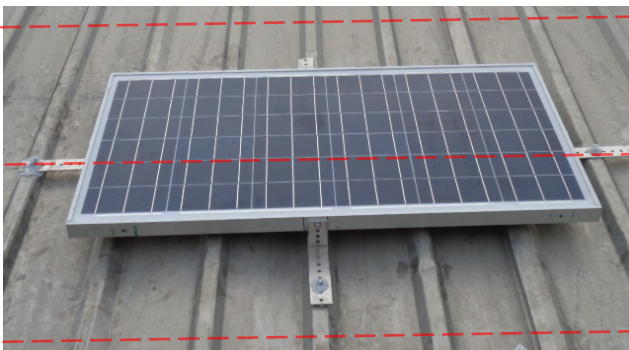

Figure 1
- On rare occasions, if you can't reach both beams, you can secure the middle of the panel to the beam using an L-foot on each side. Use one L-foot on the top and bottom of the panel to keep the panel from shifting (see figure 1).
1. Remove the contents of the Solar Suitcase, including the main control board (Fig.1).